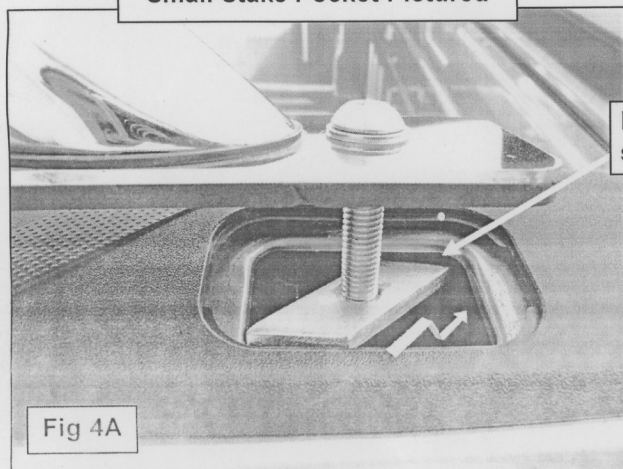
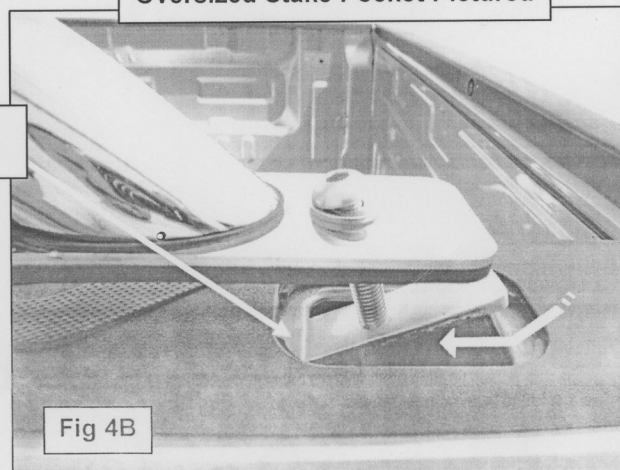

Fig 4A
Fig 4B
3. Attach (1) 10mm Bolt, (1) 10mm Flat Washer, and (1) Threaded Plate to each end of Bed Rail as shown in Figure 3. **NOTE:** Depending upon your vehicle, use the correct size Threaded Plate. For small stake pockets, use the parallelogram-shaped plate, (Figure 4A). For larger stake pockets, use the rectangular-shaped plate, (Figure 4B). Leave hardware loose.
4. Position the Bed Rail onto the top of the bed. Attach the front of the Bed Rail by tilting the Bolt and/or Bedrail until one side of the Plate engages the lip on the pocket, (Figure 4A & 4B). Once one side of the Threaded Plate is in place under the lip, slide the Plate completely into the stake pocket until the opposite end of the Plate is clear and is in place across the pocket. Repeat this Step to install the remaining end of the Bed Rail.